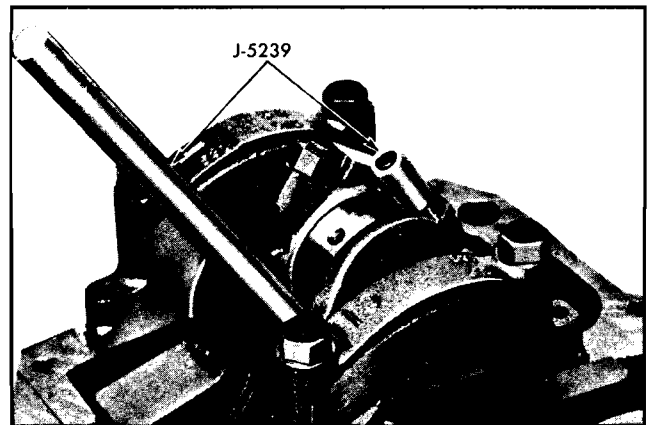

Fig. 6-114 Connecting Rod Bolt Guide Set Installed
5. Install connecting rod bolt guide set J 5239 on connecting rod bolts (Fig. 6-114).
6. Carefully remove connecting rod and piston assembly by pushing out with knurled handle of long guide (Fig. 6-114).